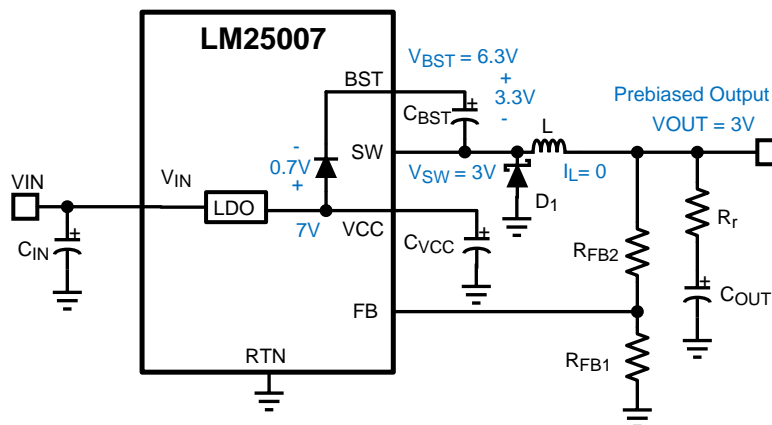
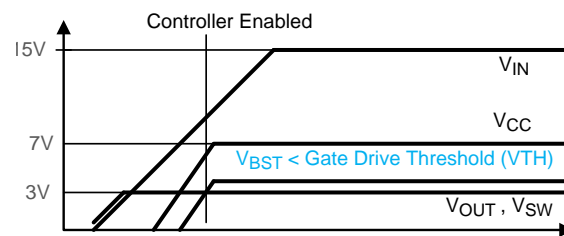

Figure 1. LM25007 Application with Prebiased Output
Figure 2. Startup with Prebiased Output
Bootstrap capacitor (C_{BST}) may have insufficient voltage during startup if a voltage is present at the output of the converter see Figure 1. This voltage is usually referred to as prebias. Since, at startup, there is no current in the inductor (L), the prebias voltage at the output appears at the switch node. If this prebias voltage is high such that the boot capacitor voltage ($V_{BST} = V_{CC} - V_{SW}$) is lower than the threshold voltage (V_{TH}) of high side gate, the high side switch fails to turn 'on' and the converter fails to startup see Figure 2. This condition persists until prebias is removed. A prebias is often caused by some leakage path in downstream circuits, e.g., a logic circuit or FPGA with a pin pulled high, or leftover charge from a previous power down.